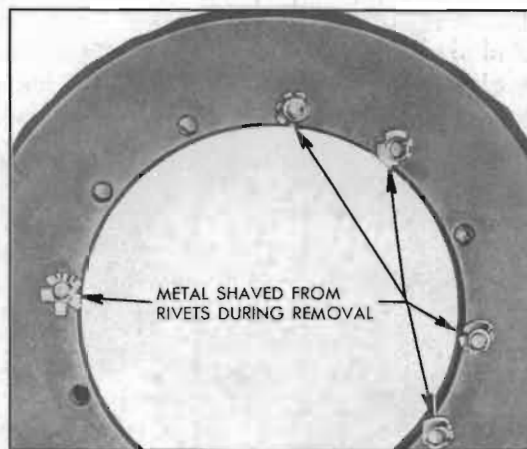

Figure 5-13—Gear Improperly Removed
2. While supporting flange of differential case on suitable block, insert punch in drilled hole and drive each rivet out; rivets will be easily parted when driven out. **NOTE:** *When rivets are installed, they expand more in the softer case than in the harder ring gear. If rivets are drilled and driven out from case side, metal is sheared from surface of rivets by sharp edge of holes in gear. See figure 5-13. This not only makes removal more difficult but will distort the case flange so that a new gear installed on case will not run true.*